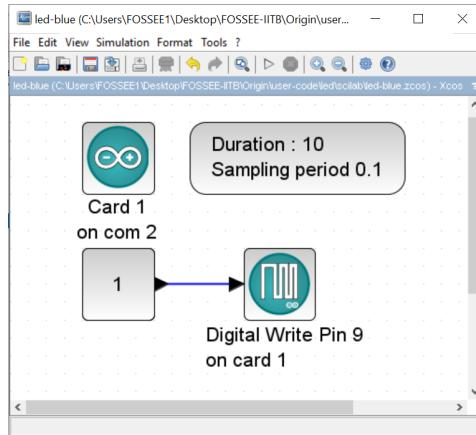

Figure 4.6: Turning the blue LED on through Xcos. This is what one sees when Origin/user-code/led/scilab/led-blue.zcos, see Footnote 2 on page 2 is invoked.
1. First we will see how to turn on the blue LED. When the file required for this experiment is invoked, one gets the GUI as in Fig. 4.6. In the caption of this figure, one can see where to locate the file.